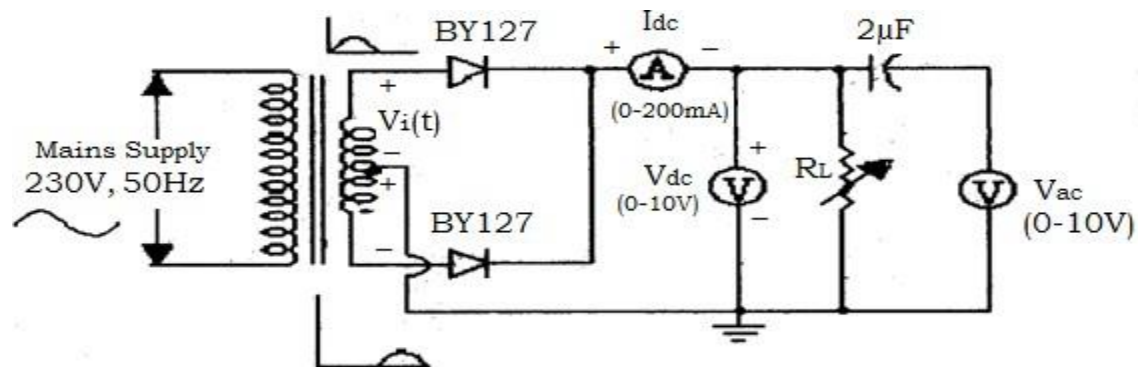

Figure 1 Circuit diagram of Full-Wave Rectifier without filter
- 1) Make the connections as per the circuit diagram of fig.1.